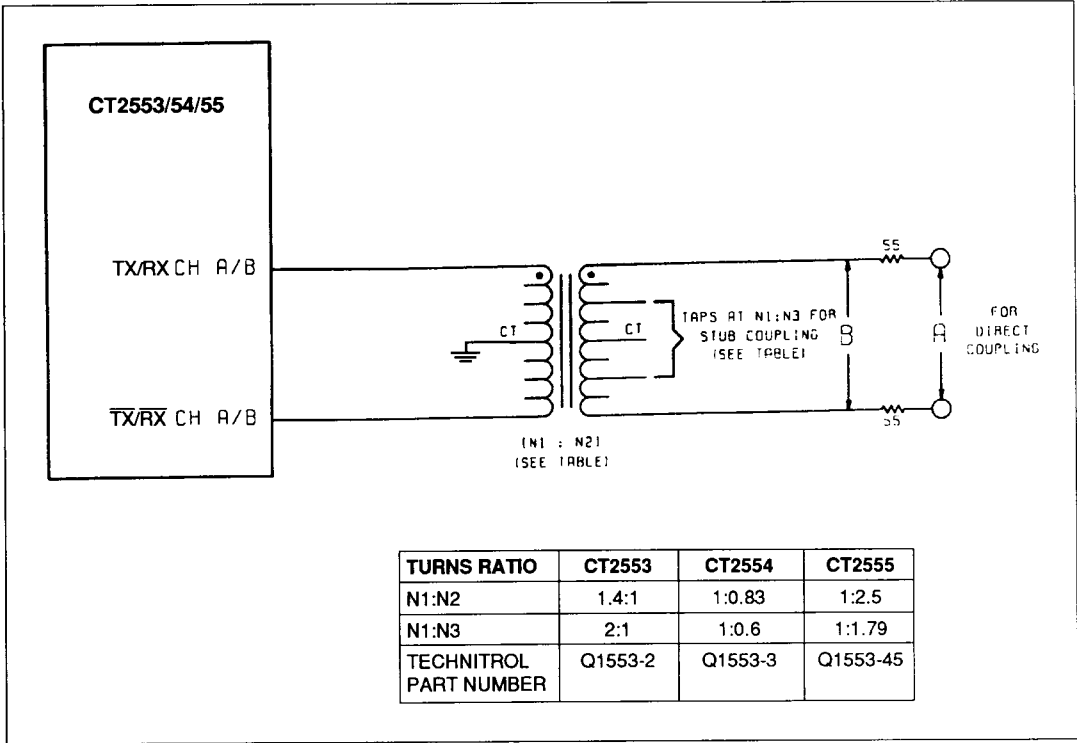

Figure 4: Bus Interconnection Diagram
* Measured at point A, Figure 4.
† Measured at point B, Figure 4.